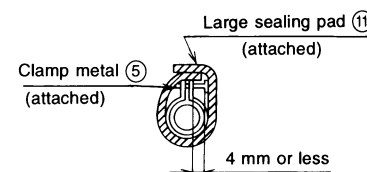

Fig. 26
- Wrap the attached sealing pad (11) over the clamp and drain hose to insulate. (Refer to Fig. 26)